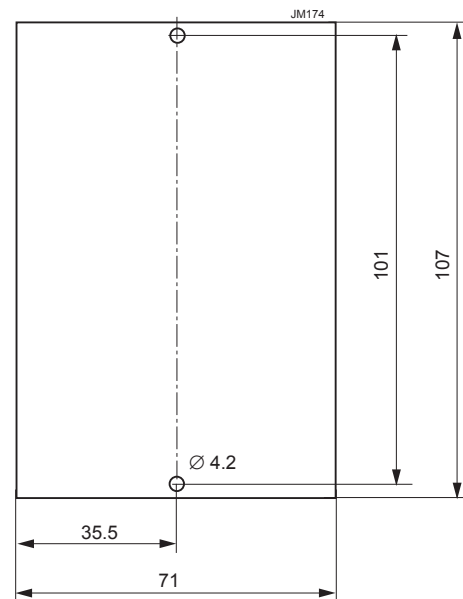

Fig. 17
- PCB isolation pads for easy and safe PCB-mounting; see fig. 17.